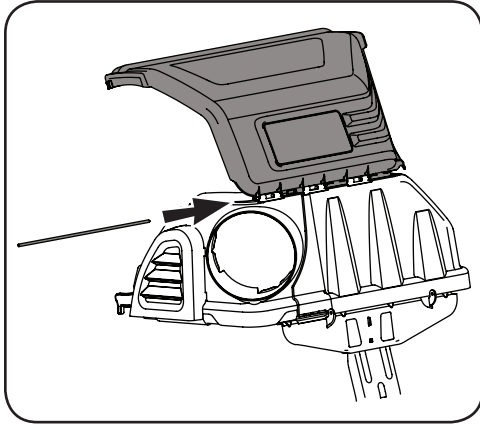

Figure 4-14
- From the front of the assembly, line up the tabs on the upper grass catcher cover with the tabs at the front of the upper chute support. Slide the hinge pin through the slots beginning at the right side upper chute support of the mounting tabs, as in Figure 4-14. Push the pin all the way in until it reaches the end-stop.